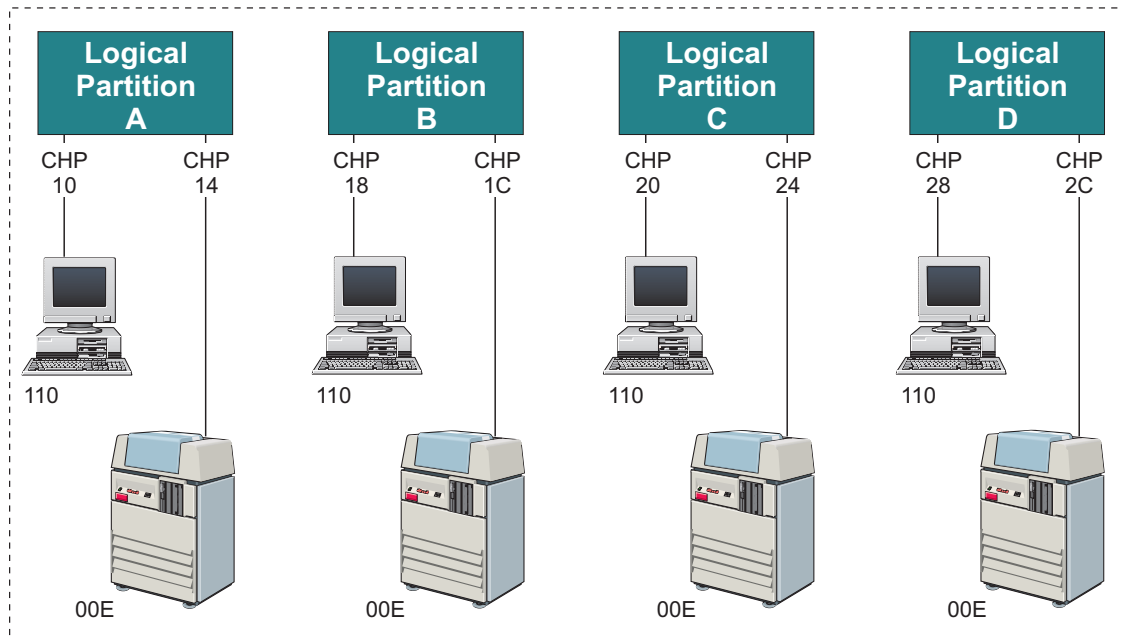

Figure 17. PR/SM configuration with duplicate device numbers
Figure 17 illustrates a configuration where duplicate device numbers are used to represent a console (110) and a printer (00E) within each of four logical partitions.
The following example shows the IOCP statement for Figure 17. This IOCP coding example groups the input statements by logical partition. When coding IOCP, view the I/O devices from a logical partition perspective.